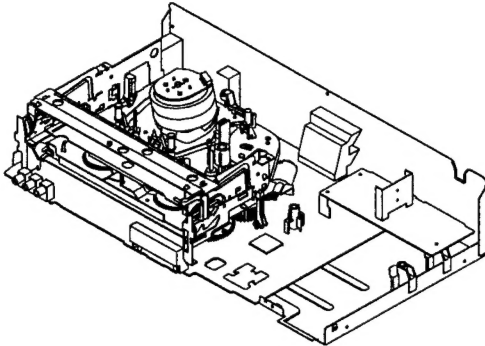

Fig. 1
1. Remove the Top Cabinet, Front Cabinet and DVD Block and the Fig. 1 below can be seen.